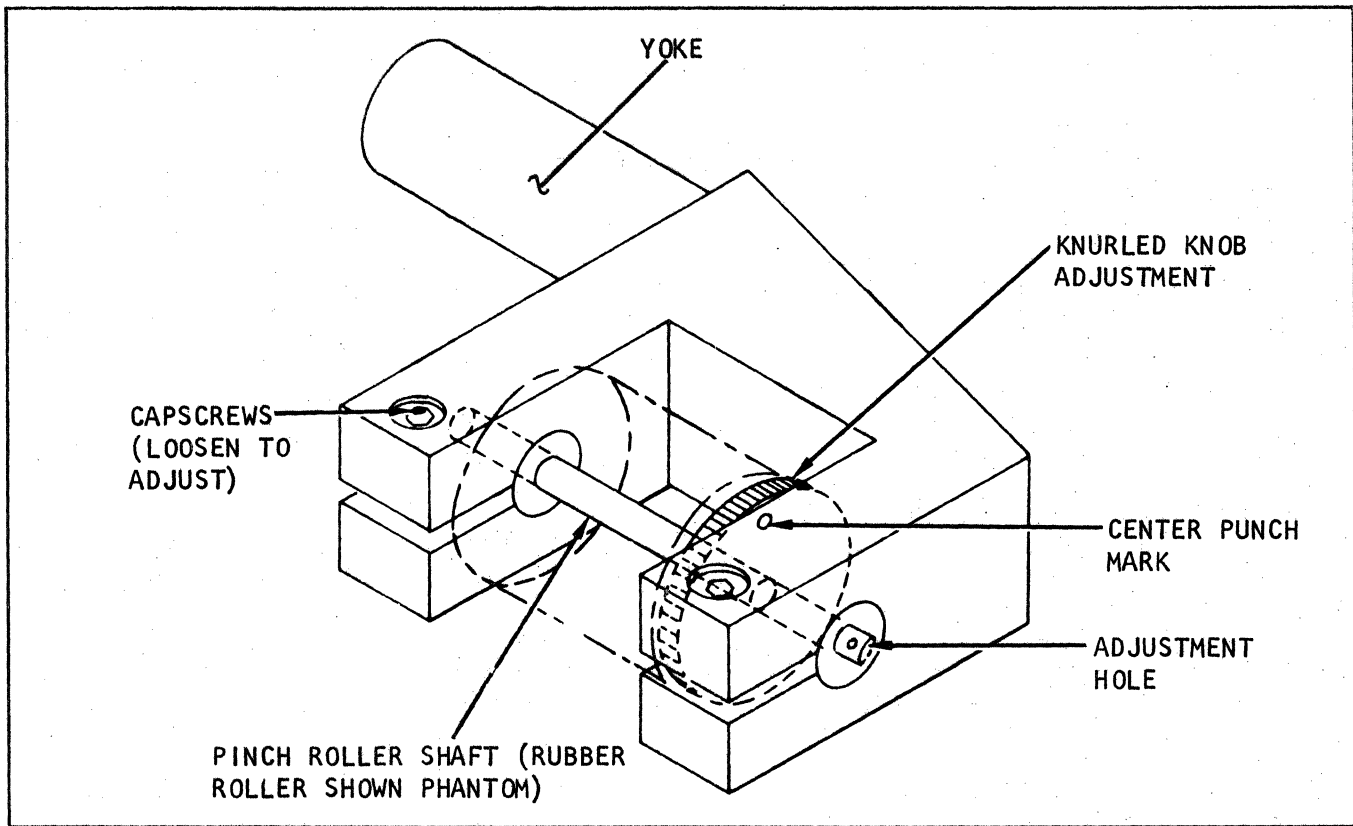

Figure 5-6. Pinch Roller Alignment Adjustment Points
- 5-46. PINCH ROLLER ALIGNMENT. The pinch rollers are adjustable so that they can be precisely aligned parallel to the capstan shaft. As shown in figure 5-6, there are two adjustment points.